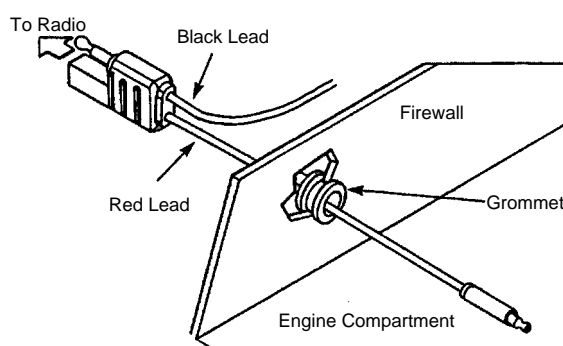

Figure 9 Cable Routing into Engine Compartment
10. From inside the vehicle, feed the red lead (without lug attached) through the access hole and into the engine compartment (See Figure 9).